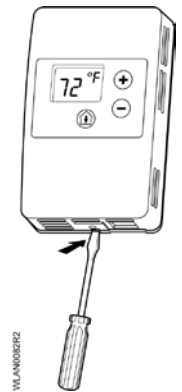

Figure 2. Step 2.
2. Use a small flat-blade screwdriver, or similar item, to push up and backwards on the base plate at the small rectangular cutout (see Figure 2).